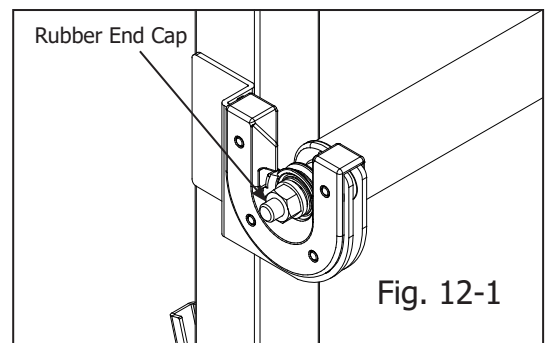

Fig. 12-1
12-1: Slide one (1) rubber end cap onto the end of each bolt sticking out of the pole ends, as shown in Fig. 12-1. If the poles are assembled properly, there should be approximately 3/8 - 1/2-inch of metal threads showing beyond the ends of each pole.